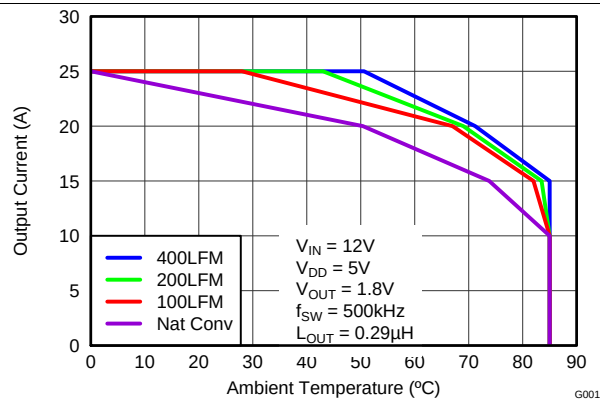
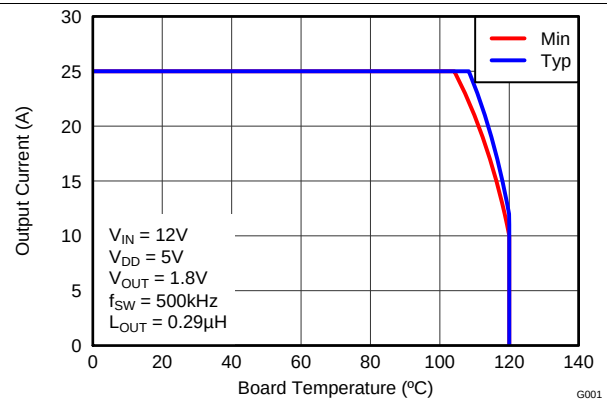

Figure 4. Safe Operating Area (SOA) – PCB Horizontal Mount ⁽¹⁾
Figure 5. Typical Safe Operating Area (SOA) ⁽¹⁾
The SOA curves in the CSD95375Q4M datasheet give engineers guidance on the temperature boundaries within an operating system by incorporating the thermal resistance and system power loss. Figure 4 and Figure 5 outline the temperature and airflow conditions required for a given load current. The area under the curve dictates the safe operating area. All the curves are based on measurements made on a PCB design with dimensions of 4" (W) $\times$ 3.5" (L) $\times$ 0.062" (T) and 6 copper layers of 1 oz. copper thickness.